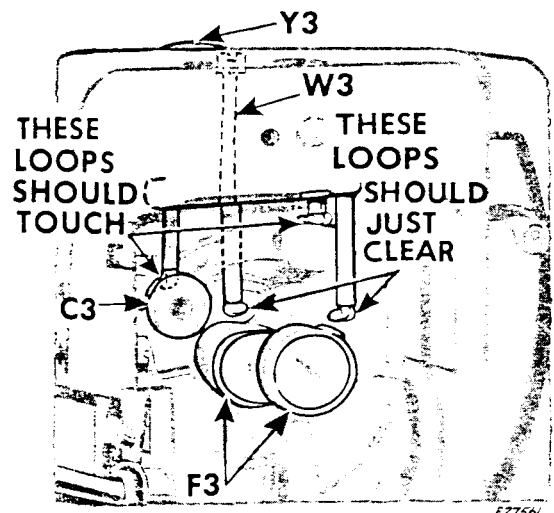
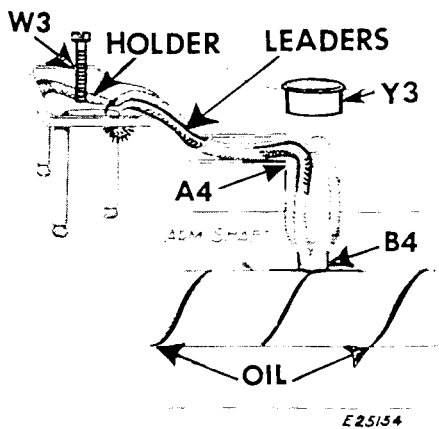

Fig. 55. Wick Loops for Needle Bar Link and Thread Take-up
Fig. 56. Replacing Oil Wick Holder
When replacing arm side shield wick, make sure that lower end of wick drops into oil pool beneath needle bar crank and that the two upper wick loops are located **as close as possible to the needle bearings at F3, Fig. 55 without touching them**. Then replace and securely tighten screws **U3**.
(See Fig. 55)
Oil wick holder includes two oil wick leaders (see **Fig. 56**) and an oil wick for the needle bar link and for the two sets of needle bearings in the thread take-up as shown in **Fig. 55**. It is removed in the following manner:—
2. Remove top arm plug **Y3**, **Fig. 56**. (Use a sharp-bladed screwdriver or a small chisel to pry plug **Y3** from arm casting.)
3. Insert two oil wick leaders into arm casting, as shown in **Fig. 56**, so that wick is **slack over edge of casting at point A4**, **Fig. 56**. This will insure free passage of oil. Use tweezers through the plug hole at **Y3** to loop the wick and bring it into positive contact with the arm shaft approximately at the point **B4** shown in **Fig. 56**.
4. When oil wick leaders are correctly installed, replace holder screw **W3**, **Fig. 56**.
5. Adjust the three oil wick loops in holder (see **Figs. 55 and 56**), so that **two of the loops come as close as possible to, without touching, the two sets of needle bearings F3** while the third wick loop makes **positive contact with the wick inside the stud C3**, in the needle bar link, as shown in **Fig. 55**.